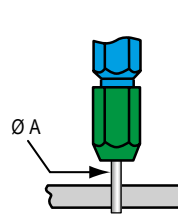

Fig. 1
**“GO”** - Insert the end (green) of the gauge as shown (Fig. 1).